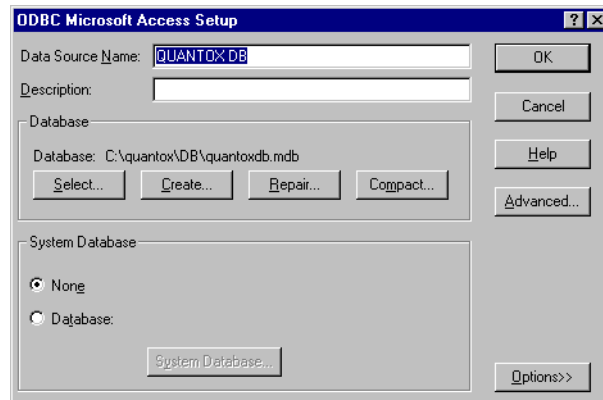

Figure B-28: ODBC Microsoft Access Setup Dialog Box
8. The ODBC Microsoft Access Setup dialog box opens with the new database pointer indicated in the Database section (Figure B-28). Click OK.